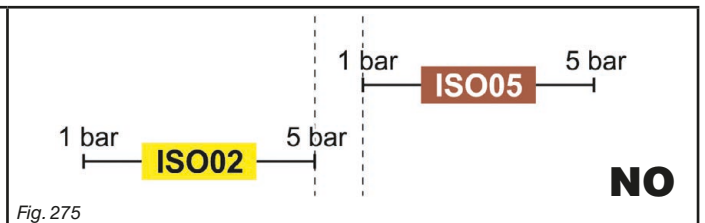

Fig. 275
- **NON-compatible nozzles:** the flowrate at 1 bar of the ISO05 nozzle is HIGHER than the flowrate at 5 bars of the ISO02 nozzle (Fig. 275).